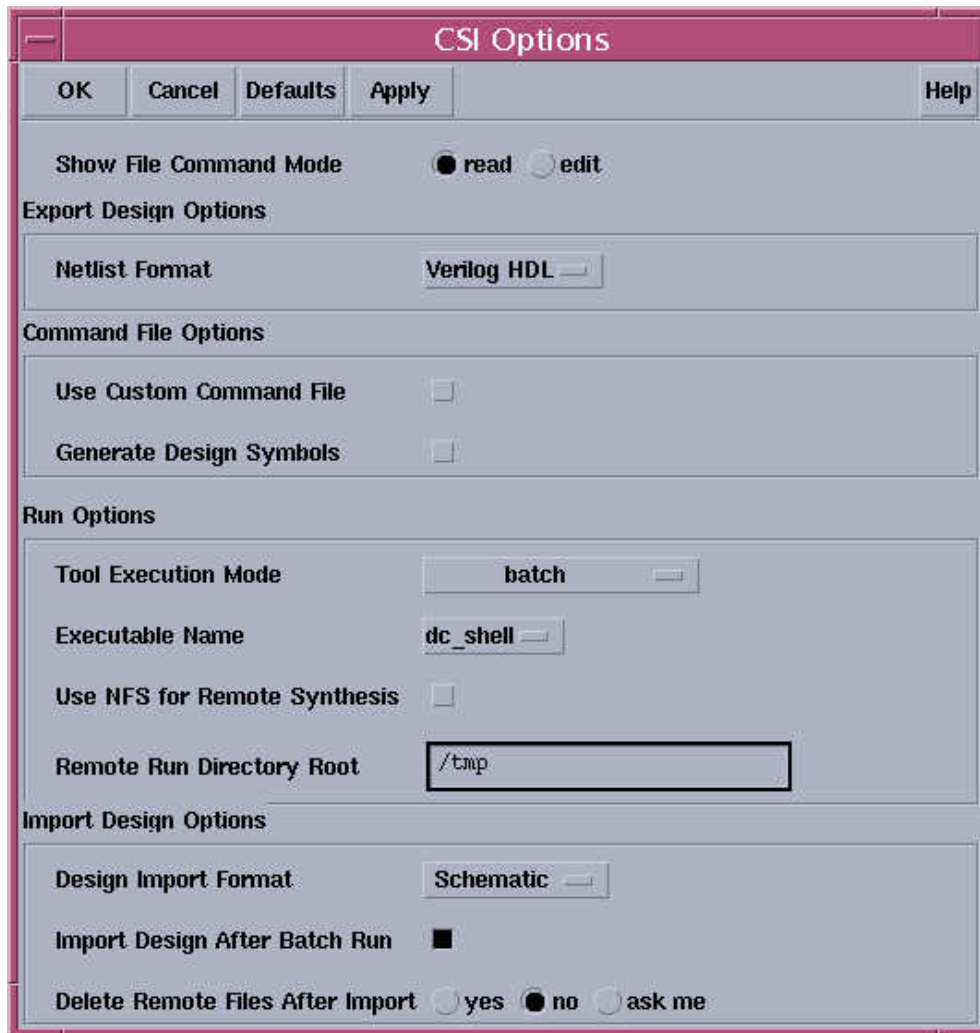

Figure 5. CSI Options.
2. Go to **Session->Setup->CSI...** and a window will appear as shown in Figure 5.
Make the changes as shown in Figure 5 (in order to generate a Verilog netlist) and select **OK**.